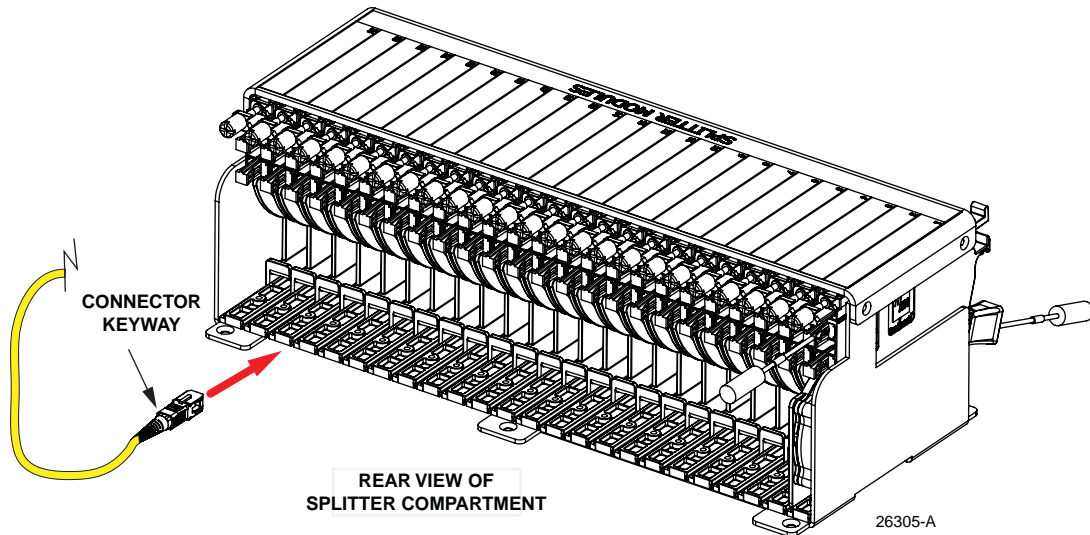

Figure 20. Feeder Cable Connector
4. Remove the corresponding feeder cable connector(s) from the rear of the splitter compartment as shown in Figure 20.
3. Remove the feeder cable connector(s) from the rear of the splitter compartment (see Figure 20).